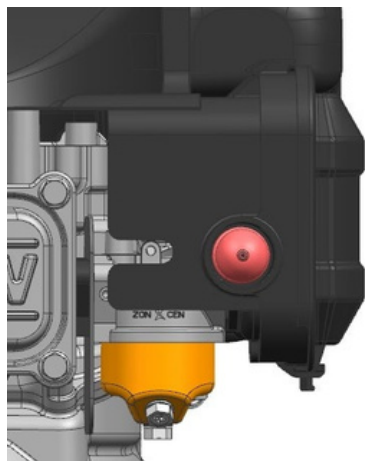

Figure13
2. Press the air pump twice to five times. Number of times varies with change of season and increases with increase of temperature. It is shown as Figure 13